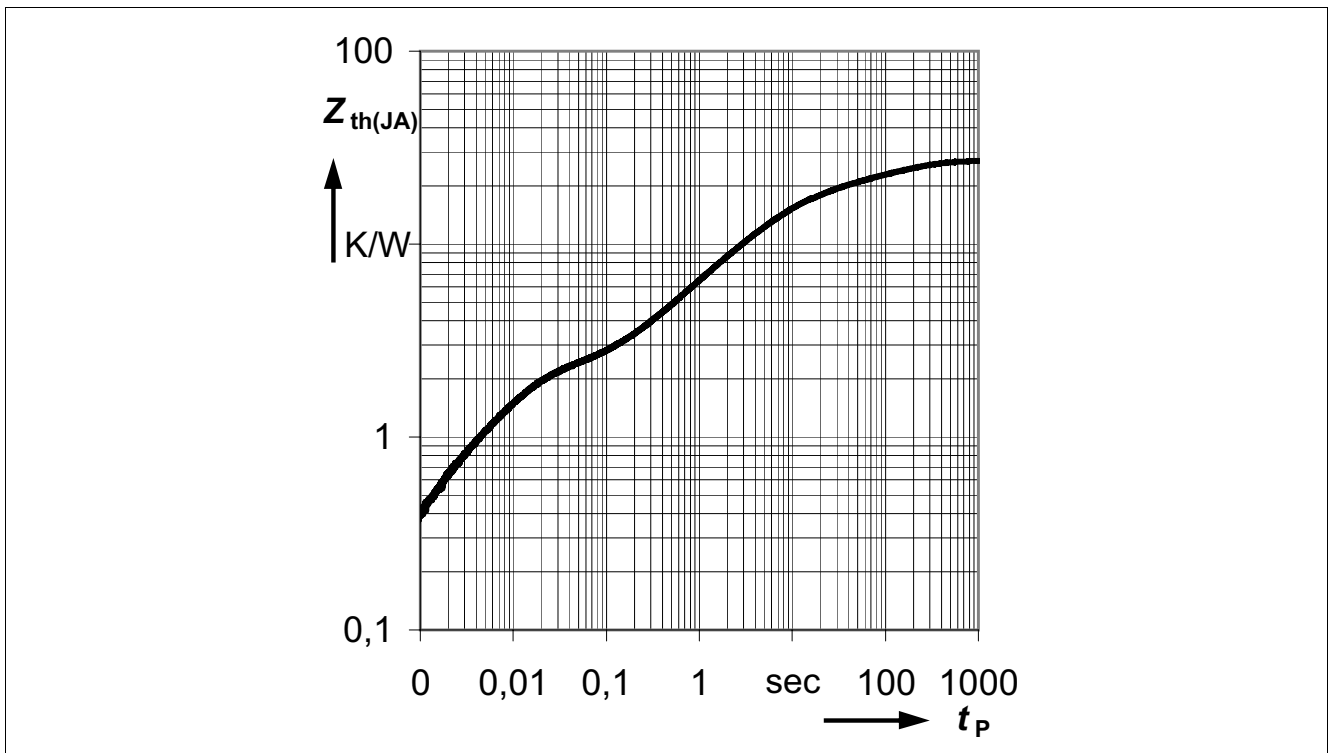

Figure 4 Transient Thermal Impedance $Z_{th(JA)}=f(t_p)$ ⁴⁾
- 4) Specified R_{thja} value and **Figure 4** are according JESD51_7 at natural convection on FR4 2s2p board. The BTS50050-1EGA was measured on a 76.2 x 114.3 x 1.6 mm board with 2 inner copper layers (2 x 70µm Cu, 2 x 35µm Cu) applying power losses of 1.4W at the channel. According to JESD51-5 a thermal via array under the exposed pad contacted the first inner copper layer. $T_a = 25\text{ °C}$.
Figure 4 shows the typical transient thermal impedance of BTS50050-1EGA.